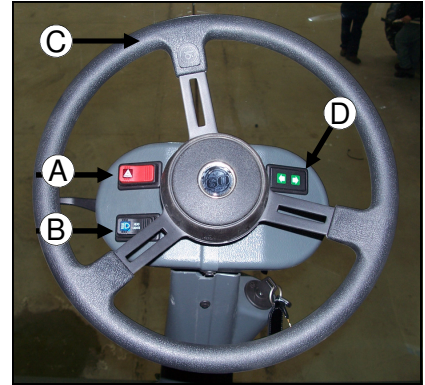

FIG. 4.1-1
**HAZARD/ WARNING LIGHTS**—To activate the flashing hazard/ warning lights (fig. 4.1-5 and fig. 4.1-6) depress the “FLASHER” switch (fig. 4.1-1, item A). Activate the hazard/ warning lights anytime, day or night, that you are traveling on a public road unless prohibited by law.